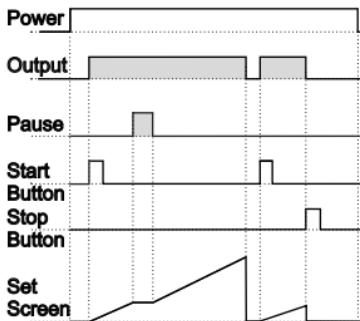

Figure 1.3
1.2.1 If Upcount $dEct = 0$ and $outF$ is $0-n$ the control diagram is shown in Figure 1.3